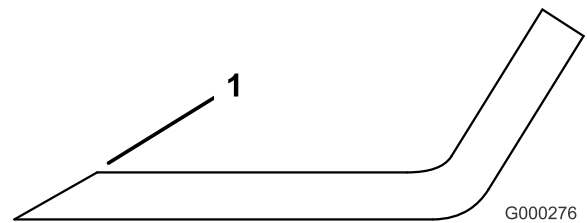

Figure 88
1. Use a file to sharpen the cutting edge at both ends of the blade (Figure 88). Maintain the original angle. The blade retains its balance if the same amount of material is removed from both cutting edges.